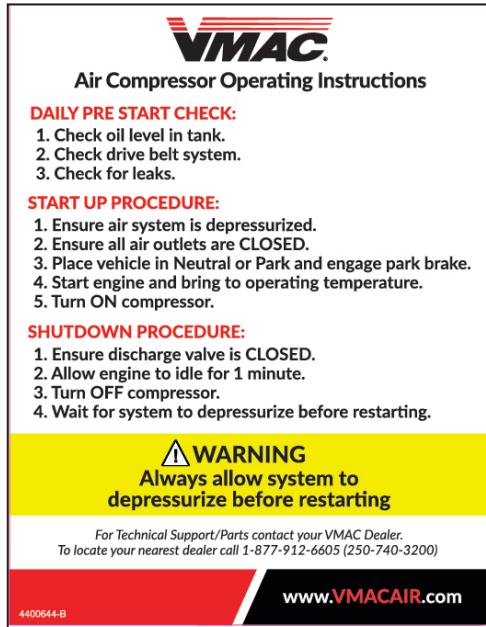

Figure 67 — Operating Instruction decal
- Affix the safety and operational instruction decal in an obvious location so that it can be seen by vehicle operators. A good spot for this is usually on the inside of the door or on the panel underneath the steering wheel (Figure 67).